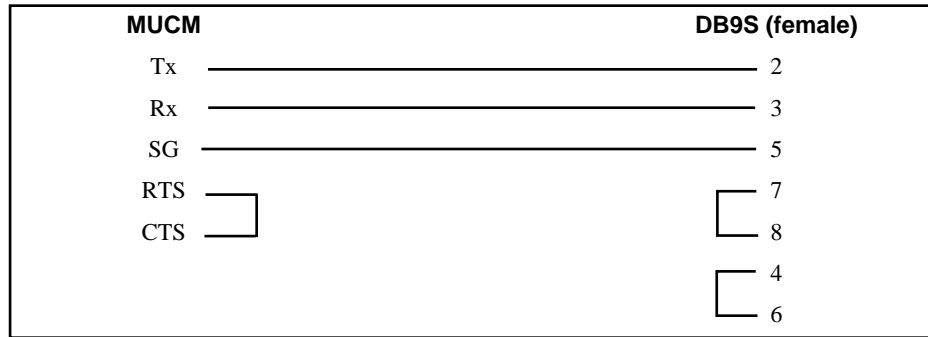

Figure 2-2 MUCM to 9-pin UPS RS-232 (MU1 Cable)
- MU1 cable (or equivalent can be built; see Figure 2-2)
A physical connection must be made from the personal computer to the MUCM in order to download the applications. This link is a serial connection from a COM port on the personal computer to the RS-232 port on the MUCM. The Niobrara MU1 cable may be used for this connection. This cable is shown in Figure 2-2.